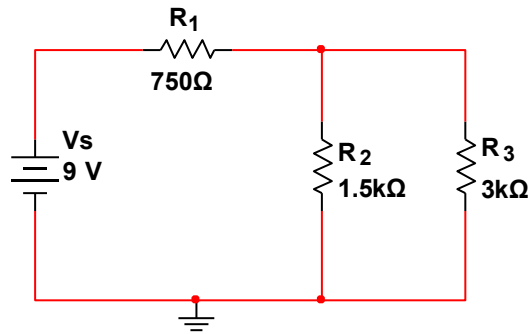

Figure 3.1 – DC Series-Parallel Combination Circuit
1. **Build** the DC Series-Parallel Circuit in Figure 3.1 on your breadboard.
- a. **Build** the circuit from Figure 3.1 in Multisim.